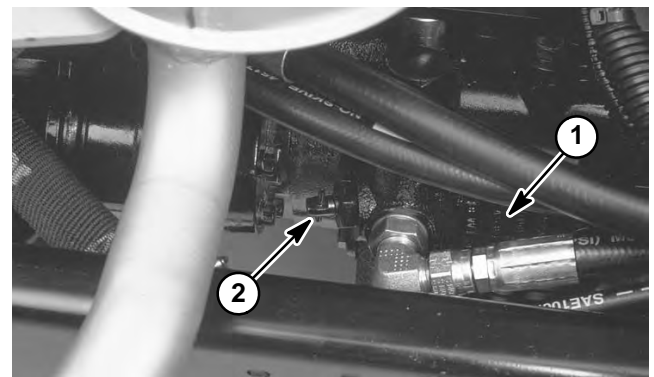

Figure 2
B. Rotate by-pass valve on the piston pump 90 degrees to allow front wheels to turn freely (Fig. 2).
F. Before starting engine, close by-pass valve on pump by rotating it 90 degrees (Fig. 2).